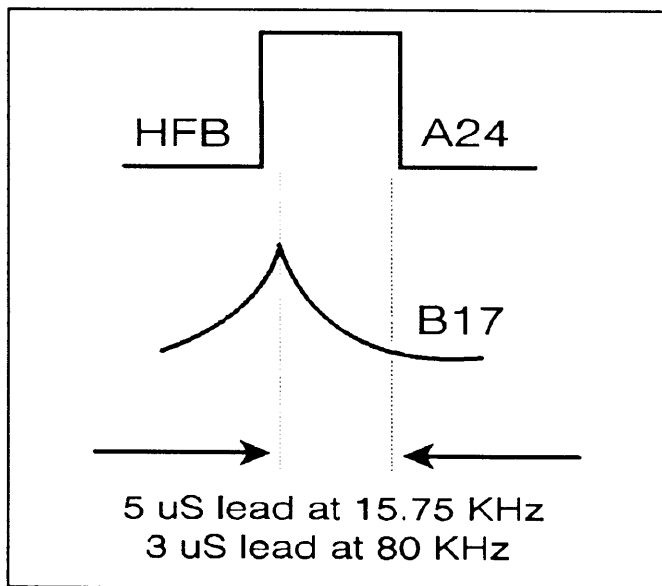

FIGURE 12-2. Horizontal Parabola
**Horizontal Ramp.** IC4A, IC14A and associated components produce a voltage ramp. The voltage appearing at pin 1 of IC14A is -1V at 15.75 KHz and -5V at 80 KHz. R55 carries a current of 45 mA at 15.75KHz and 230 mA at 80KHz. The current charges C34 and generates a 3.4V 0-peak voltage ramp (H.RAMP) at pin 7 of IC14B. In a similar manner, a 3.0V 0-peak ramp is generated at pin 14 of IC14D. IC11A produces a 600 nanosecond pulse referenced to the falling edge of HFB. See Figure 12-2. The pulse turns on Q3, discharging C32. Resistors R72, R73, R74 and R78 produced a reference voltage proportional to frequency plus a constant ( $V_{ref} = kf + c$ ). The ramp drives the output of comparator IC16 high when ramp voltage is less than the reference voltage on pin 2 of IC16. The square wave at pin 7 of IC16 can be used to trigger IC11 to output a 600 nanosecond pulse which resets H. RAMP.